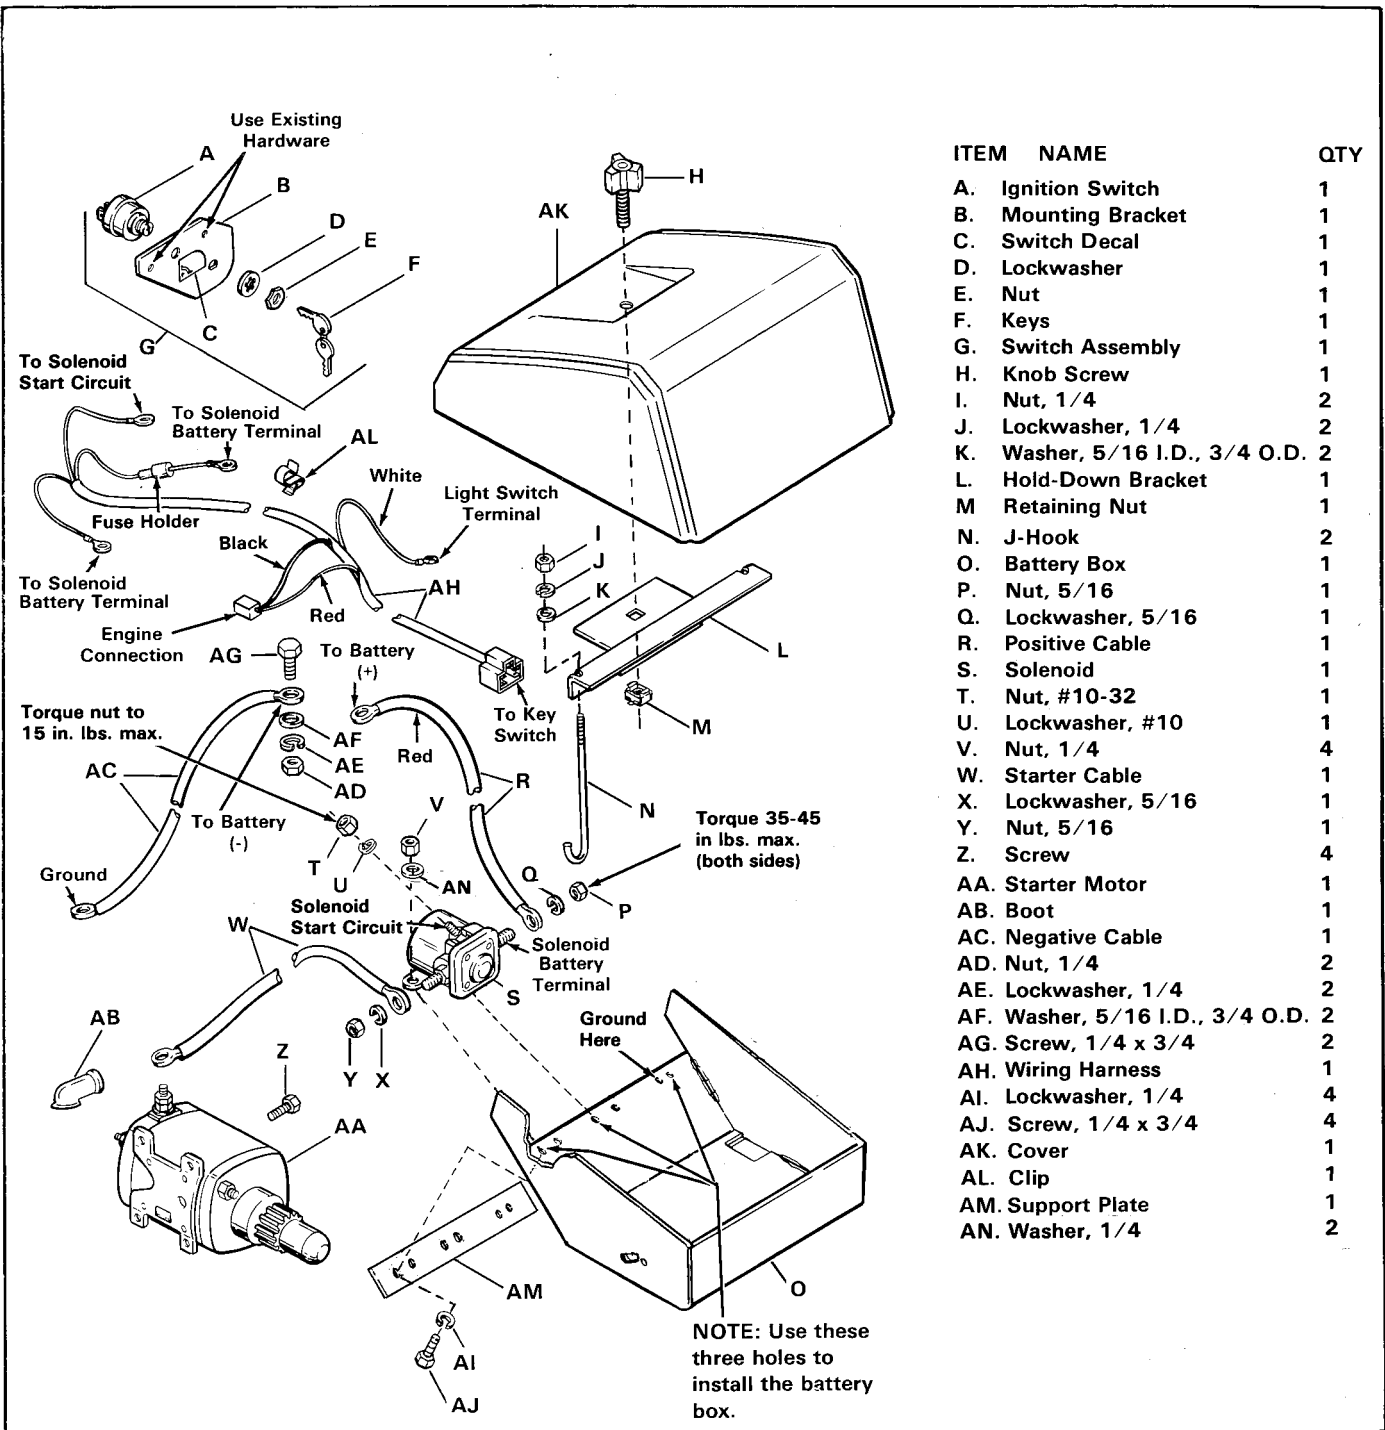
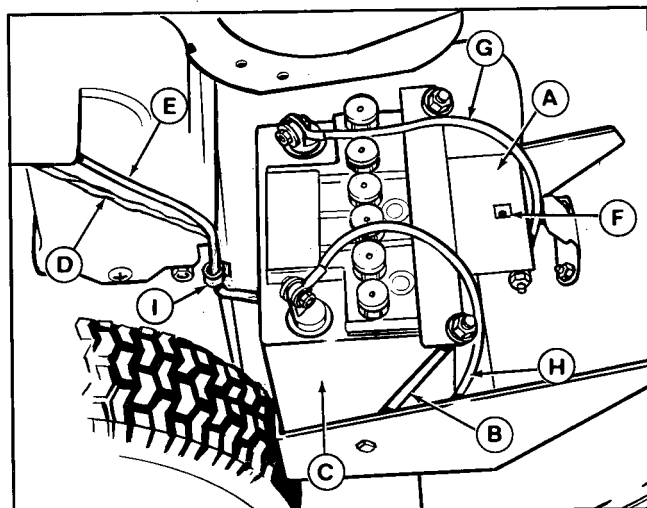

Figure 1. Electric Start Kit
Figure 7. Battery Installed
Take an inventory of the parts in the kit by referring to figure 1. Part numbers for the items can be found in the snowthrower parts manual.
6. Three 17/64 inch (6.7 mm) holes must be drilled in the snowthrower housing to mount the battery box. See the note in figure 1 to determine which holes in battery box will be used. Position the battery box as shown in figure 3. The front, bottom surface must be flat against the auger housing. The battery box must be level. When the battery box is positioned, mark the three holes (in auger housing) then remove the battery box.
7. Install the battery box (O, figure 1), support plate (AM), negative cable (B) (15" long), and solenoid (S) as follows.
15. Secure the wiring harness in the clip (I, figure 7) and insert the clip into slot in snowthrower housing.
16. Connect the other end of the cable (E, figure 7) to the starter motor (AA, figure 1). Be sure the boot (AB) is in place over in the terminals.
17. Make sure the retaining nut (F, figure 7) is securely positioned in the hole in the battery clamp.
18. Hook the J-hooks (B, figure 7) into the holes in each side of the battery box. Place the battery in the box with the positive post on the solenoid side.
19. Position the battery clamp (A, figure 7) onto the J-hooks and battery as shown. Install a 1/4" washer, lockwasher and nut on each J-hook to secure the clamp (A).
20. Connect the red positive cable (G) to the battery positive post. Connect the black negative cable (H) to the battery negative post.
22. Position the cover (AK, figure 1) onto the battery box, and thread the knob screw (H) thru cover and into the retaining nut. This completes the installation.